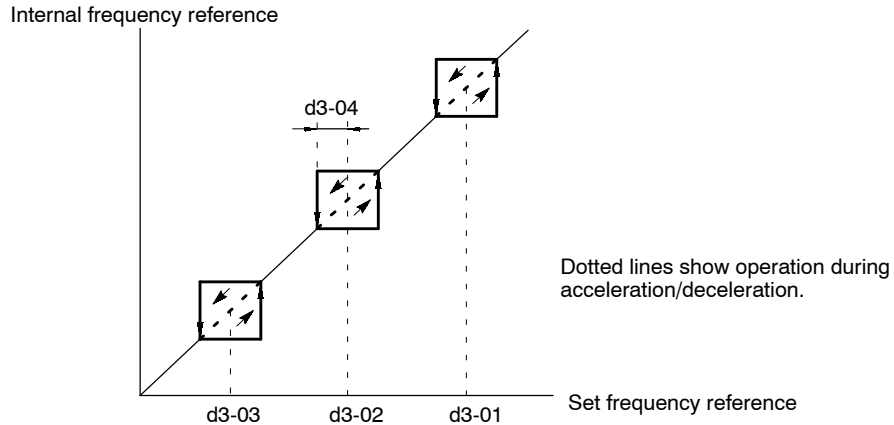

Fig 7.31 Setting Prohibited Frequencies
- The relation between the internal frequency reference and the set frequency references is shown in Figure 7.31.